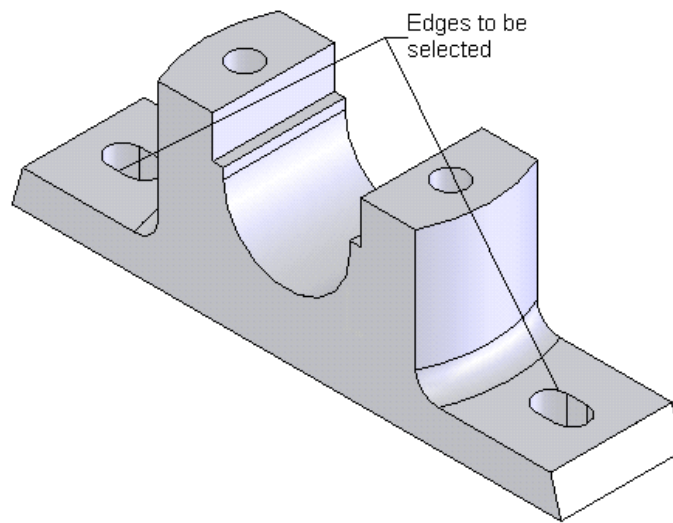

Figure 6-90 Edges to be selected
2. Using the select tool select the edges of the cut features as shown in Figure 6-90. The edges that are tangent to the selected edges are selected automatically because the selection mode of the chamfer feature uses tangent selection.